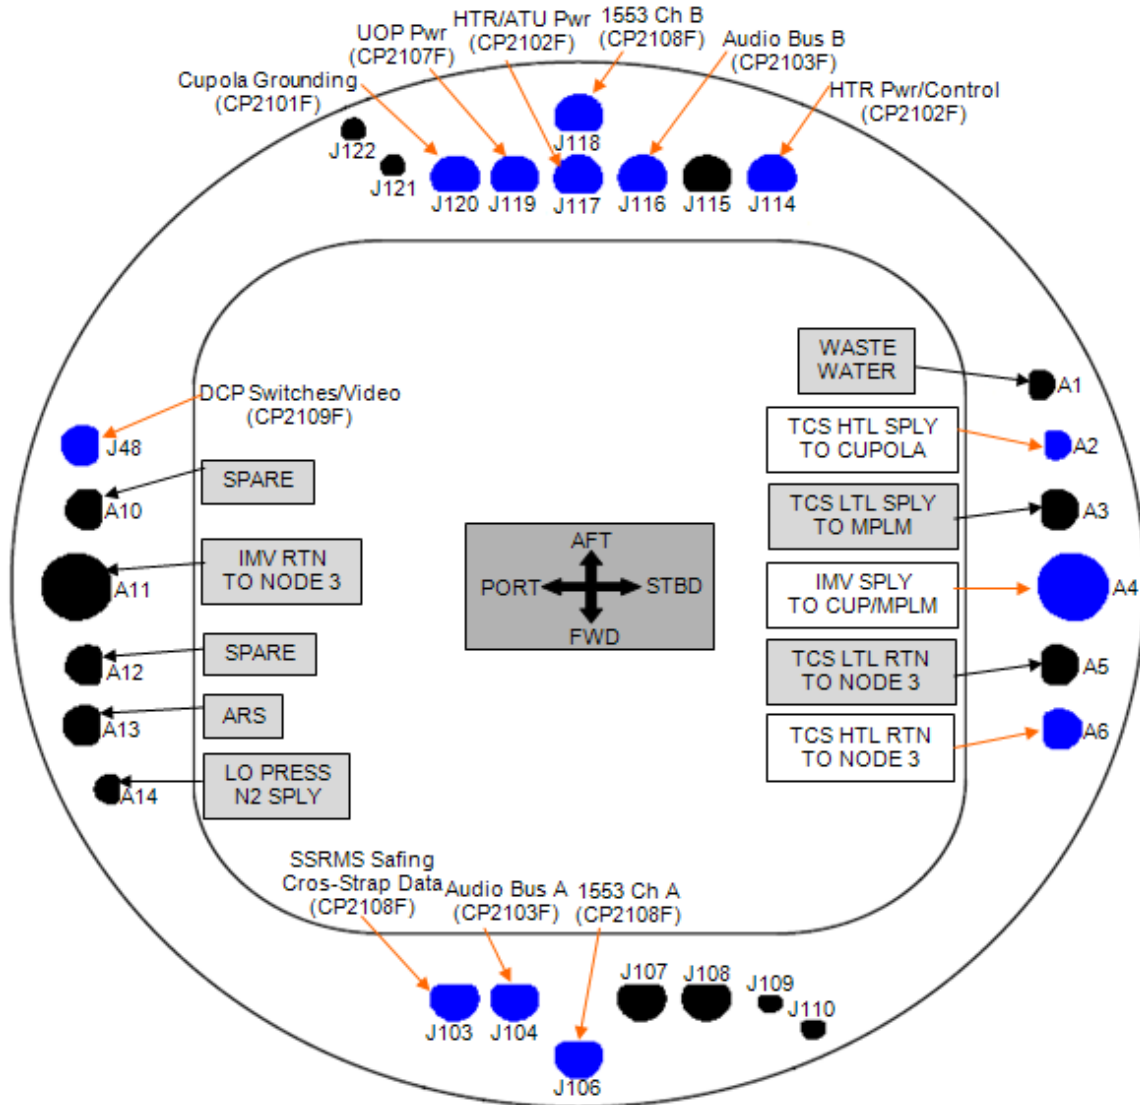

Figure 13.- Node 3 Nadir Bulkhead (view from inside Cupola looking Zenith towards Node 3).
1. Connections represented in blue in Figure 13 will be mated in this procedure.
2. Text boxes in Figure 13 represent labels on Node 3 Nadir Bulkhead.
- 8.4 **On MCC-H GO**, loosen, remove V-Band Clamp on NOD3 Nad Stbd (A4) IMV Flange (Ratchet, 1/4" Drive; 7/16" Deep Socket). Remove IMV Cap from NOD3 (A4) IMV Flange. Place IMV Cap in 12" x 12" Ziplock Bag. Label Ziplock Bag, "N3 Nadir IMV Supply Cap" (Sharpie). Temporarily stow. Refer to Figures 13, 14.
- 8.5 Retrieve IMV Flange Saver stowed in Ziplock Bag labeled, "NOD1-NOD3 IMV H/W" during Node 3 Vestibule Outfitting. Install on NOD3 (A4) IMV Flange. Refer to Figures 13, 14.
- 8.6 Secure IMV Flange Saver to NOD3 IMV Flange with V-Band Clamp. Tighten, torque V-Band Clamp to 35 in-lbs [Ratchet, 1/4" Drive; 7/16" Deep Socket; (10-50 in-lbs) Trq Wrench, 1/4" Drive]. Refer to Figures 13, 14.
1. Figures 13 and 15 are printed again as an appendix at the end of this procedure so that they can be ripped out by crew.